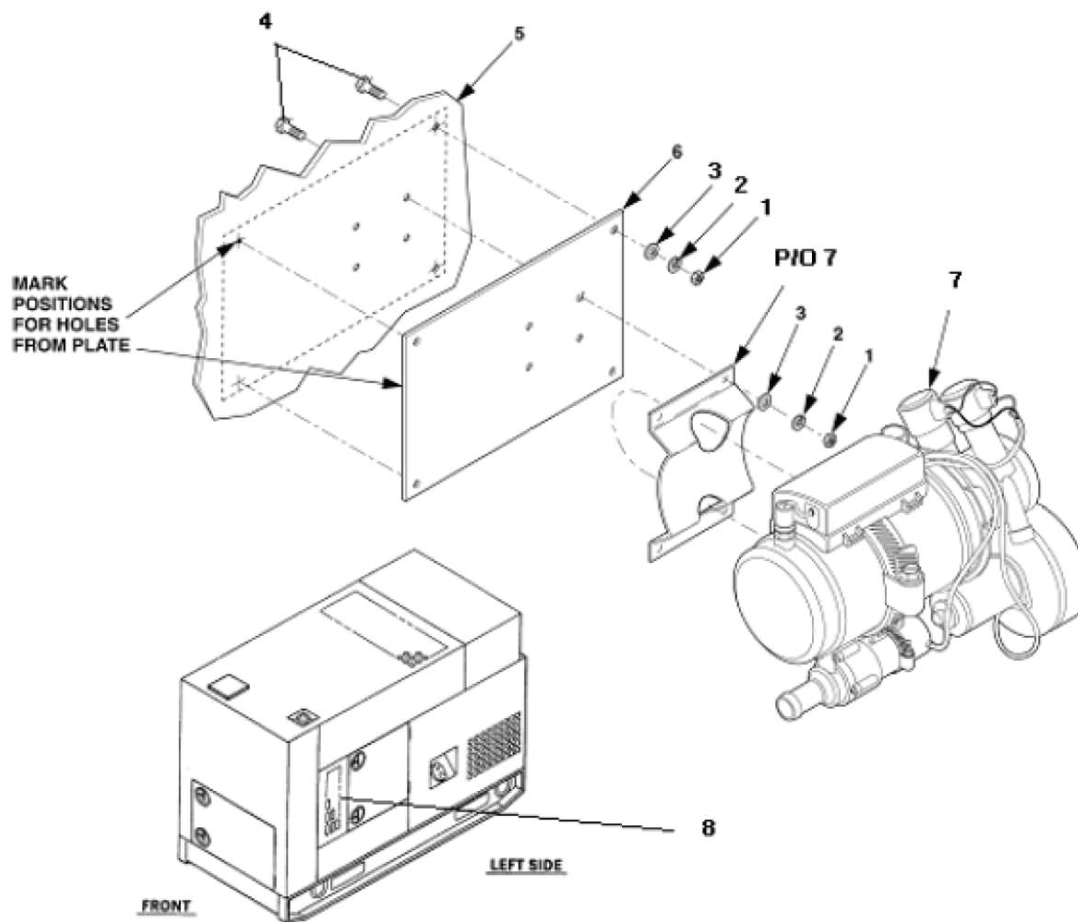

Figure 6. Heater Assembly Removal.
12. Remove heater assembly (7) by removing bolts (Figure 6, Item 4), nuts (1), lockwashers (2), flat washers (3), and plate (6) from left side panel (5).